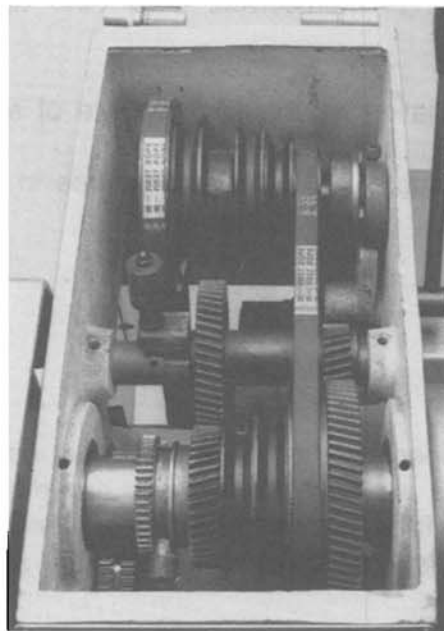

Figure 14
3. Remove the jackshaft that holds the two back-gear spurs and the back-gear shifter. Two 4mm socket head setscrews at each end secure the shaft/bushing assemblies in the headstock casting. Be careful when you remove these assemblies and note the position of the eccentrics at the ends of the shafts. See Figure 14 below.
4. As you can see from Figure 14, it will be necessary to feed the new belt through the yoke. The easiest way to do this is to remove the hinge pin that this speed-change pulley swings on. A single 4mm setscrew secures the hinge pin, located in the lower rear of the compartment.
8. The speed-change pulley must now be removed. As you can see in Figure 14, this pulley is secured to the spindle in two places: on the right, by the back-gear spur, and on the left, by a locking collar. The two setscrews on the pulley are for access only; they do not hold anything together internally. For now just loosen the 3mm setscrew on the collar to the left.